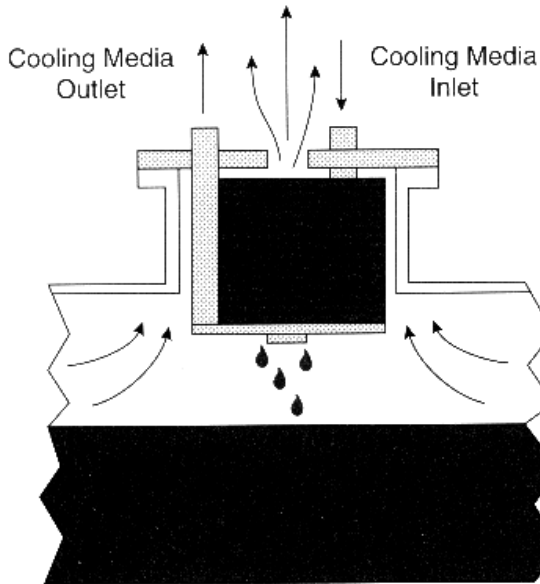

Fig. 3a
- Condenser design, which comes in three typical configurations. Each depends on the process and vessel's discharge connection (Figs. 3a, 3b, 3c).
*Condenser design with helical bundle mount inside vessel's discharge flange is typical of reflux-condensing applications. (Fig. 3a)*